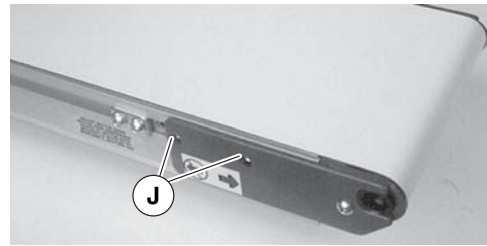

Figure 7
2. Locate drive mounting position and remove two (2) screws (Figure 7, item J).